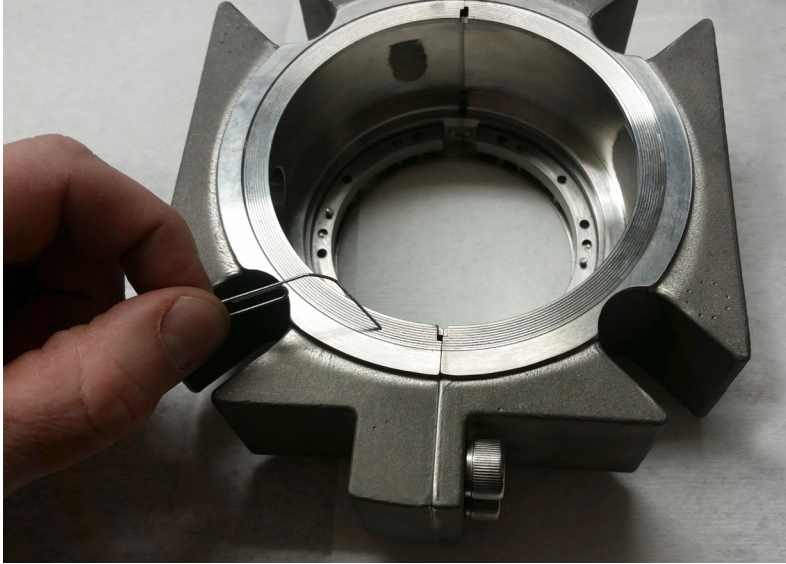

Figure 27
8.3 Using the wire end of a paperclip apply a dot of adhesive in the gland gasket groove about 6.3 mm (.25 in) from each side of the split joints, 4 dots total. See Figure 27.